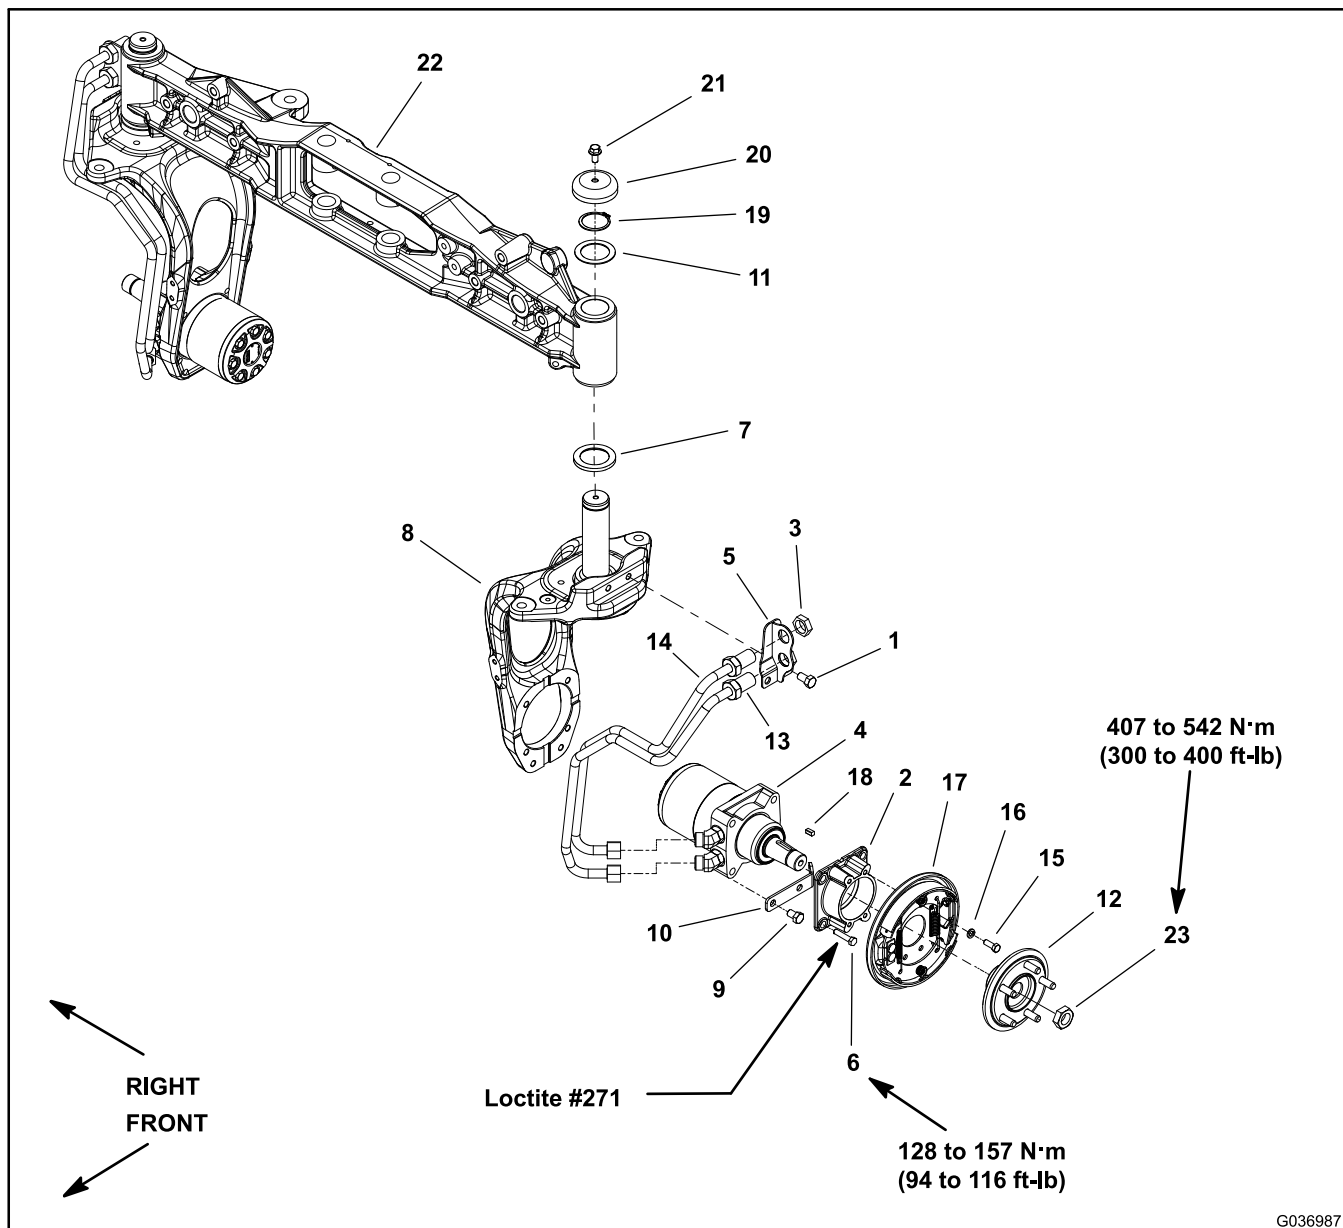

Figure 269
4. Loosen, but do not remove the locknut (item 23 Figure 269) securing the wheel hub to the motor shaft.
6. Remove the brake drum, wheel hub, and brake assembly (item 17 in Figure 269) from the machine; refer to Servicing the Brake \(page 6–15\).
9. Remove the 2 bolts (item 1 in Figure 269) that secure the bulkhead bracket to the rear steering fork assembly.
10. Remove the 4 bolts (item 6 in Figure 269) that secure the wheel motor and brake adapter to the steering fork. Remove the brake adapter and slide the wheel motor (with the hydraulic lines attached) from the steering fork. Carefully, position the wheel motor assembly away from the steering fork and support the wheel motor. Do not allow the wheel motor to hang from the hydraulic lines.
12. Remove the flange-head screw (item 21 in Figure 269), spindle cap, and retaining ring that secure the steering fork spindle into the axle tube. Slide the steering fork spindle out of the axle tube.
3. Install the lower 6.3 mm (0.25 inch) thrust washer (item 7 in Figure 269) onto the steering fork spindle and slide the steering fork spindle up through the axle tube.
5. Place the spindle cap (item 20 in Figure 269) to the top of the steering fork spindle and secure with the flange-head screw.
- B. Apply the Loctite #271 (or equivalent) to the threads of the 4 bolts (item 6 in Figure 269).
- D. Secure the bulkhead bracket (item 5 in Figure 269) to the steering fork with the 2 bolts.